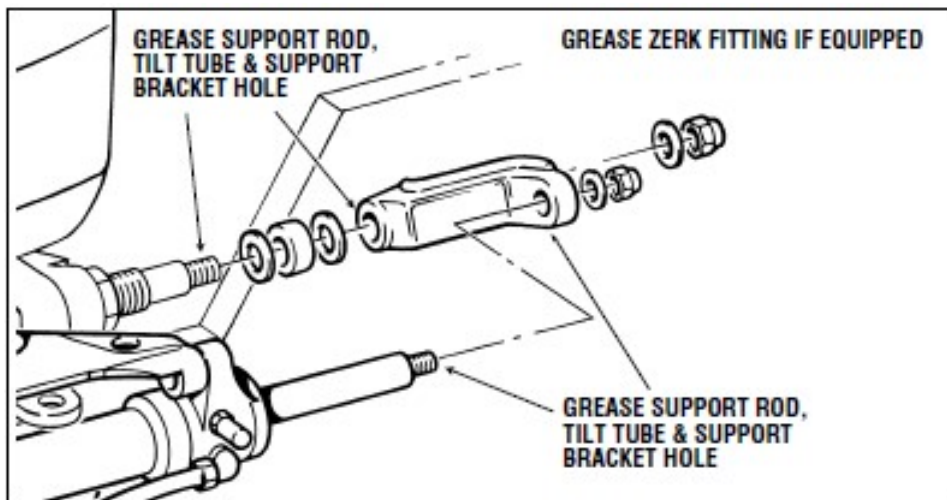

Figure 94: Grease locations
4. Grease all contact points show in Figure 94. DO NOT remove tiller bolt and re-grease.